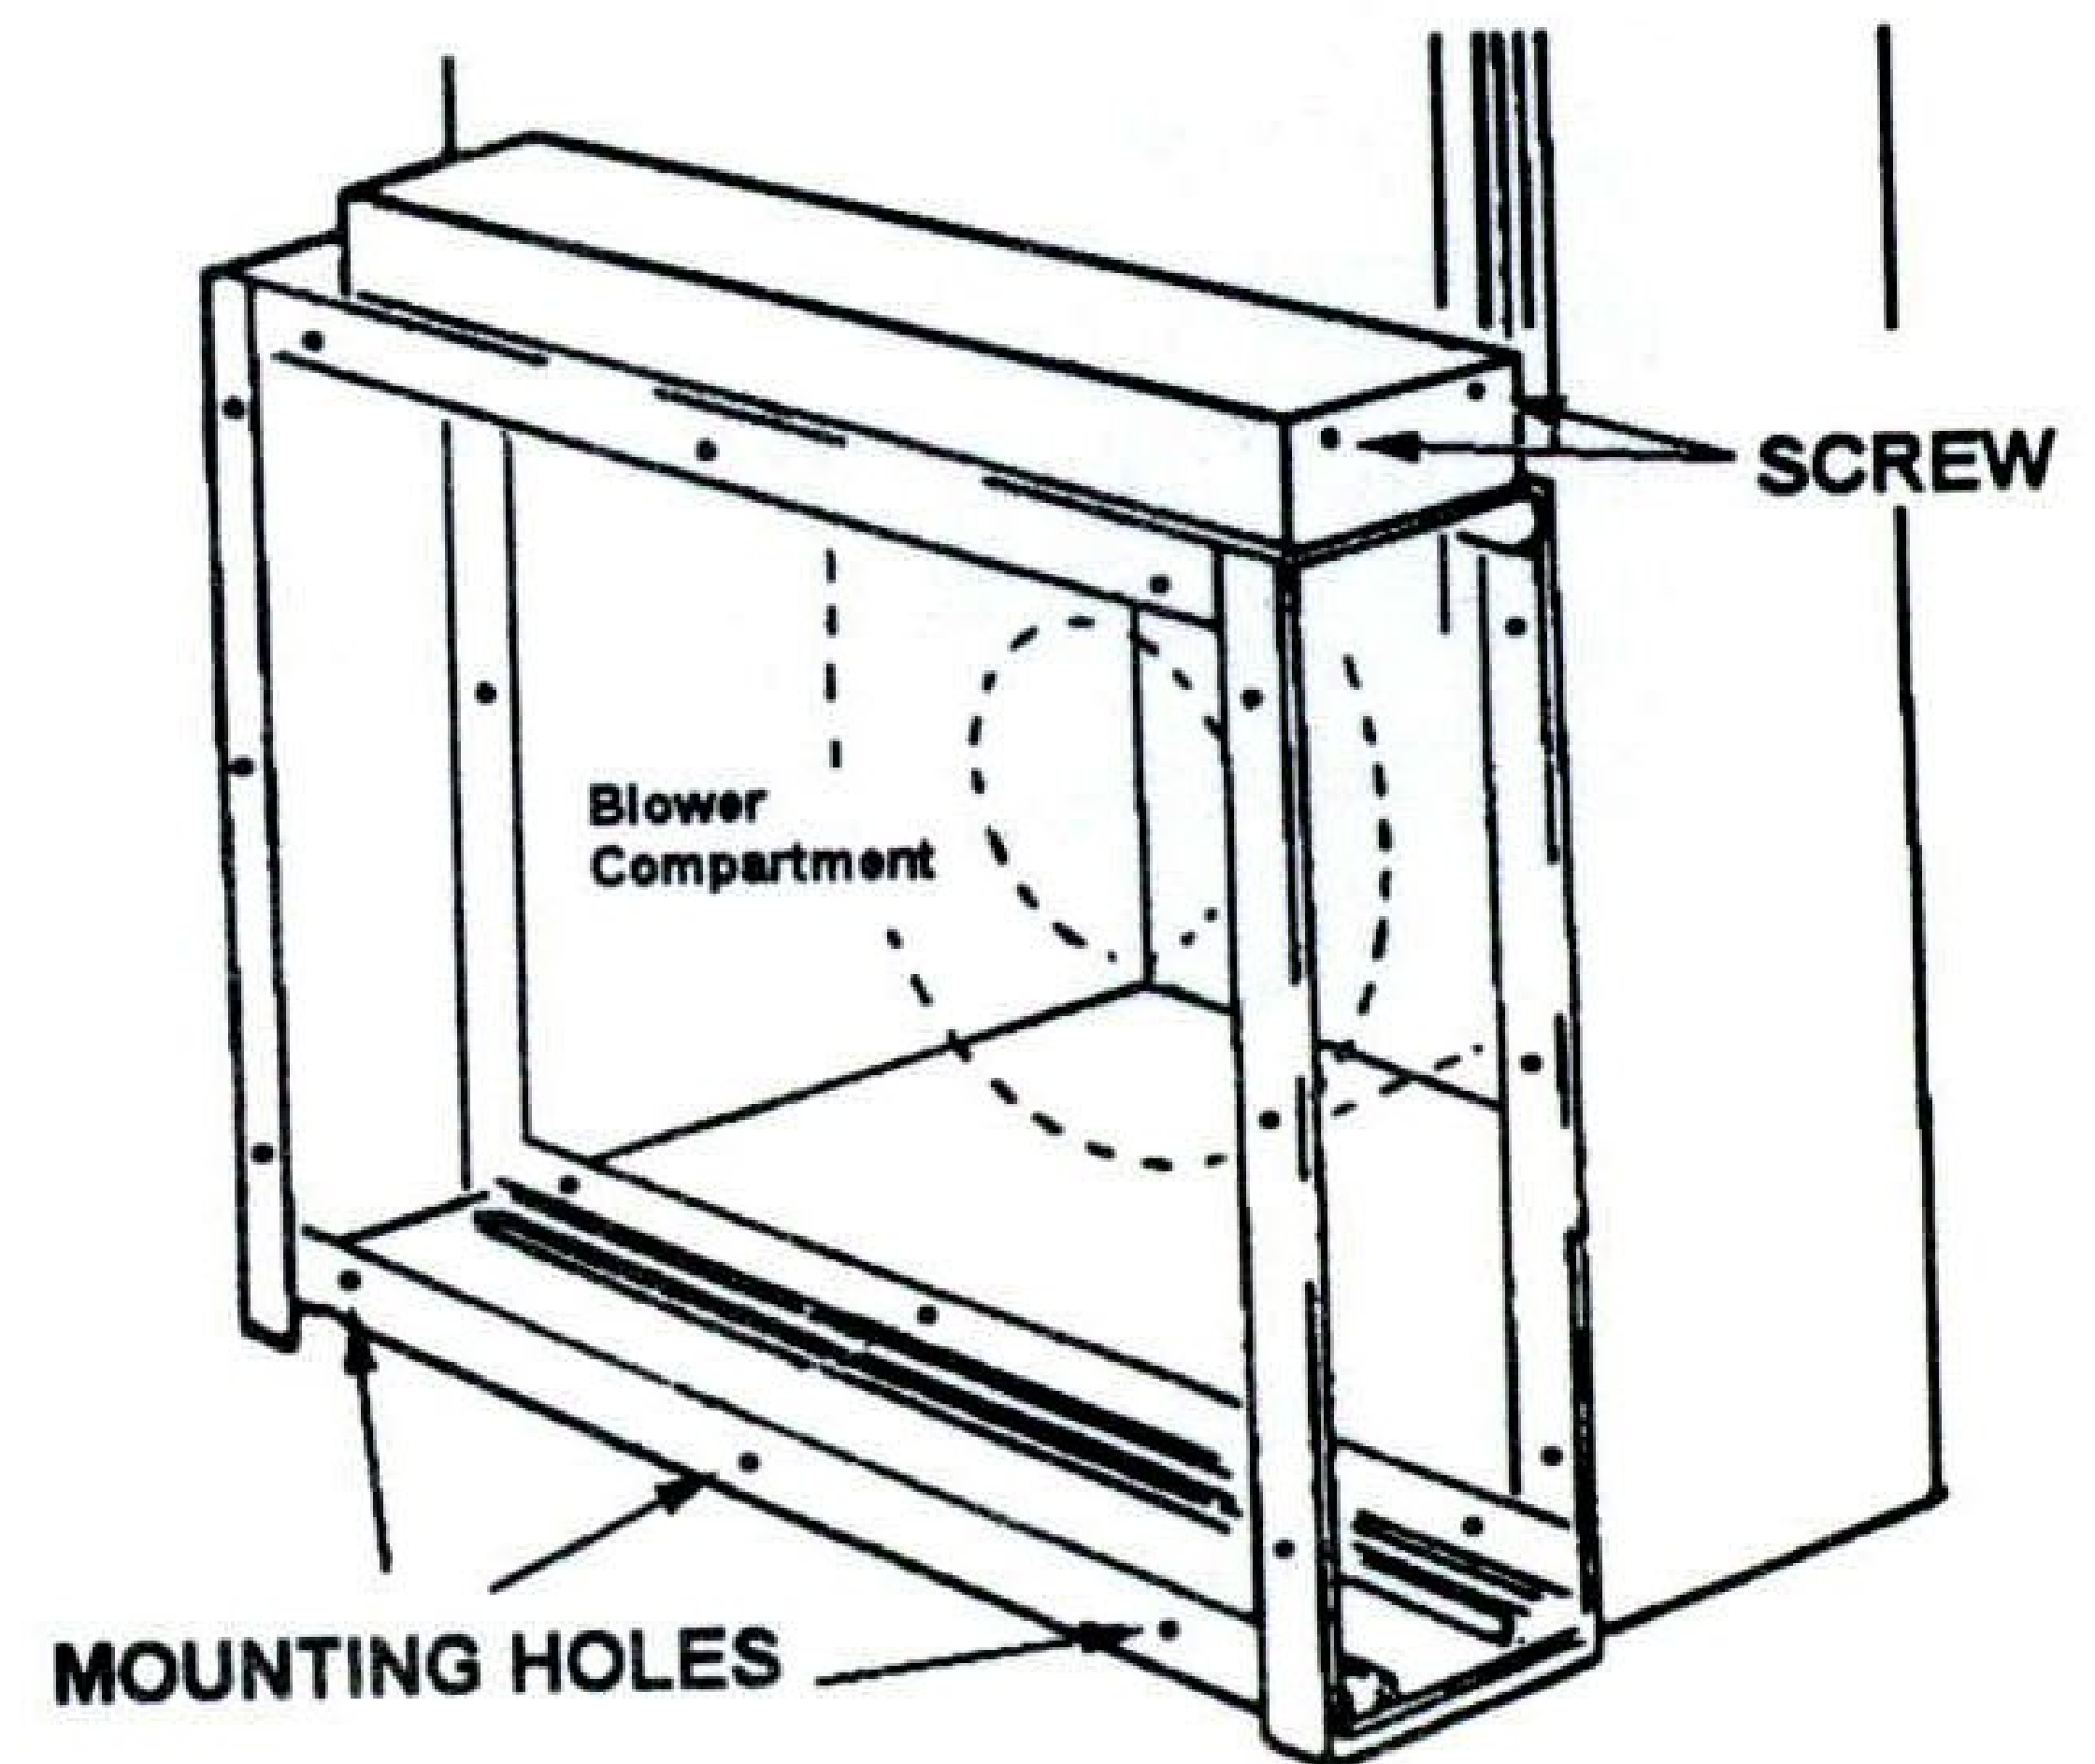

Figure 7
CAUTION: Only a trained, experienced serviceman should install this electronic air cleaner. The power supply should be removed before installation. To remove the power supply, remove the two (2) screws (See Figure 7) in the top front of the cabinet. Remember to keep this hardware for reinstallation of the power supply when the air cleaner installation is complete. A thorough checkout of the unit installation should be completed before unit operation.
8. Mounting holes are provided for ductwork attachment (Figure 7). The .140" holes are sized for #8 sheet metal screws, or $\frac{1}{8}$ " rivets. If the adjoining ductwork is flanged, install the screws so that the screw heads are inside the cabinet. This will prevent damage to the prefilters and optional charcoal after-filter during removal and installation after cleaning.